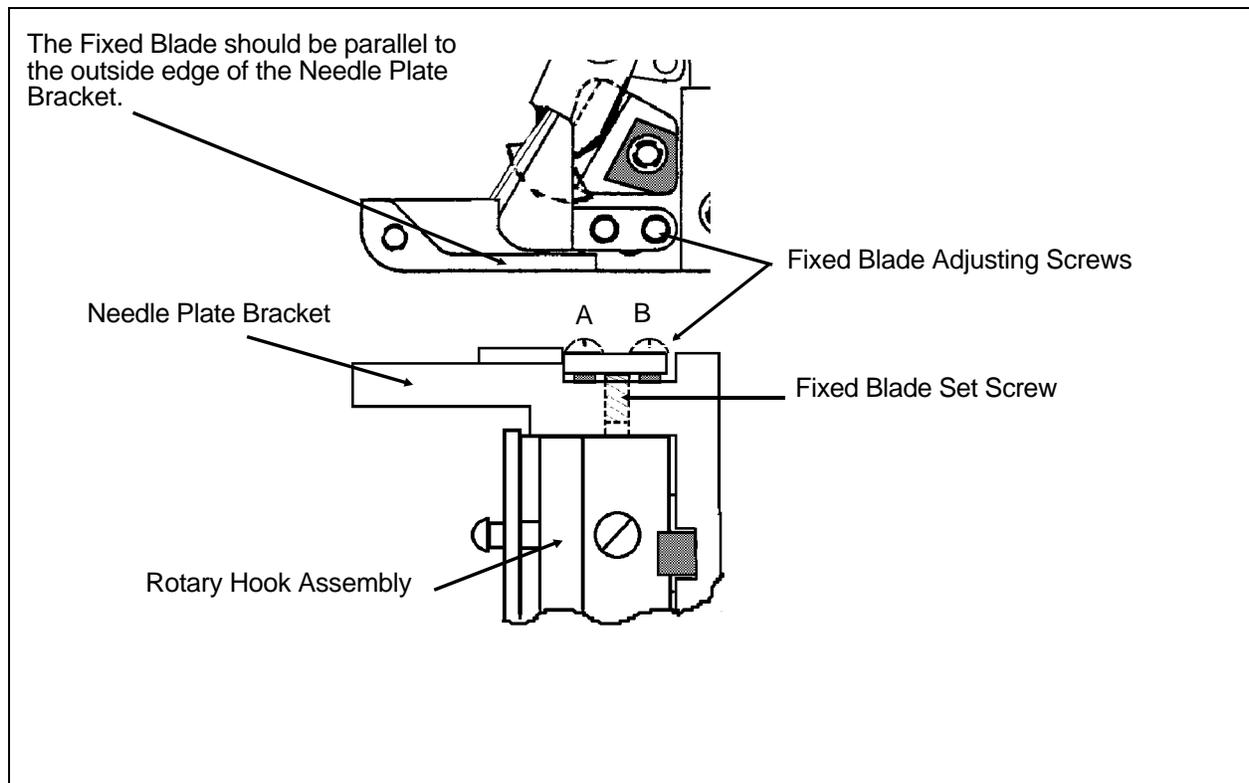

Fig. 4-7 Adjusting The Fixed Blade
- 6 . Use Fig. 4-7 as a guide to making the Fixed Blade adjustments. Adjust the Fixed Blade with the two (2) screws, labeled A and B shown in Fig.4-7.
Screw, shown in Fig. 4-7 , the only time you will need to adjust the height of the Set Screw is if it is replaced. At which time this screw should be set 1 1/2 turns above flush on the needle plate bracket. This is indicated in Fig.4-7.